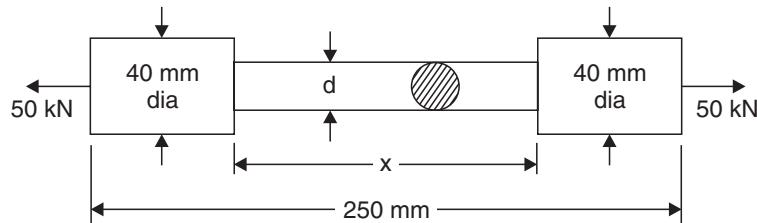

Fig. 12.15
**Example 12.6.** The bar shown in Fig. 12.15 is subjected to a tensile load of 50 kN. Find the diameter of the middle portion if the stress is limited to  $130 \text{ MN/m}^2$ . Find also the length of the middle portion if the total elongation of the bar is  $0.15 \text{ mm}$ . Take  $E = 200 \text{ GN/m}^2$ .